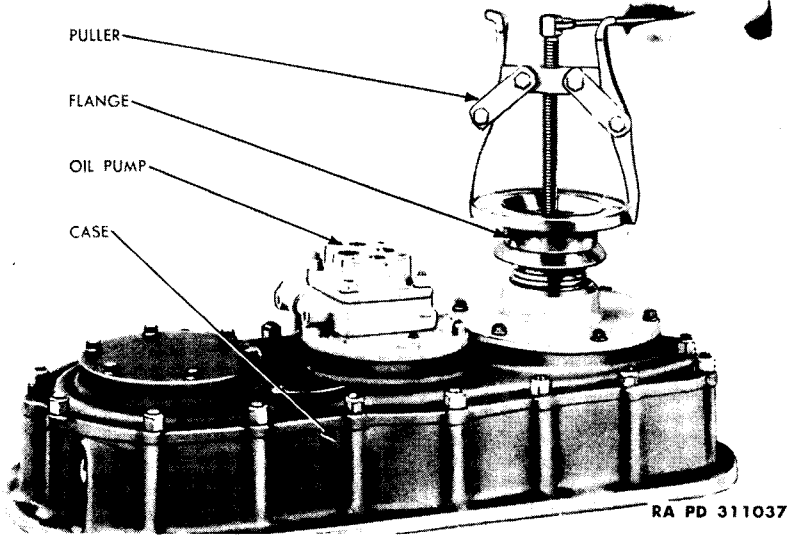

Figure 23 – Removing Transfer Case Flange, Using Puller 41-P-2911
(1) **REMOVE FLANGE.** Remove driving flange retaining nut. Pull flange with puller (41-P-2911), being careful not to damage thrower behind flange (fig. 23). Pull bearing cage from cover, using two cap screws in tapped holes in bearing cage flange.